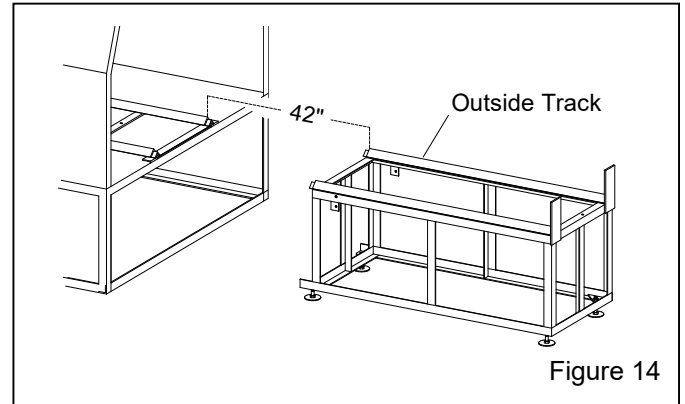

Figure 14
3.4.3 Position outside track – Figure 14